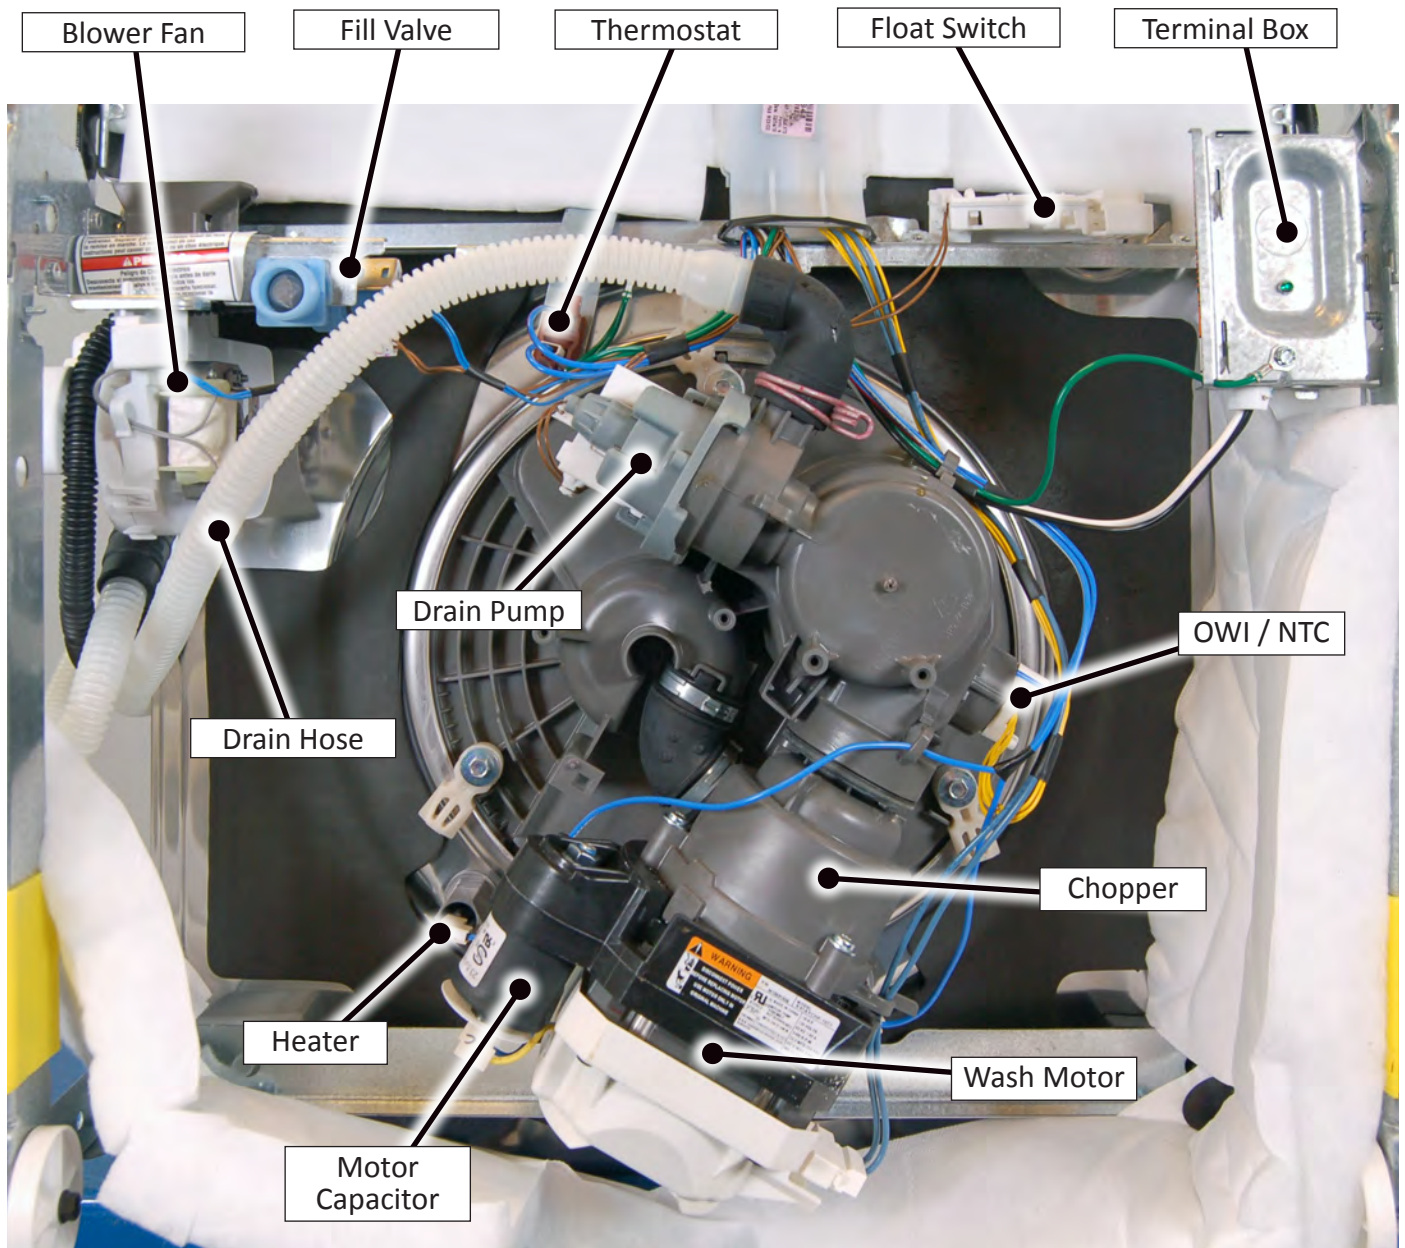

Figure 3
3. Lift off lower spray arm, (see Figure 3).